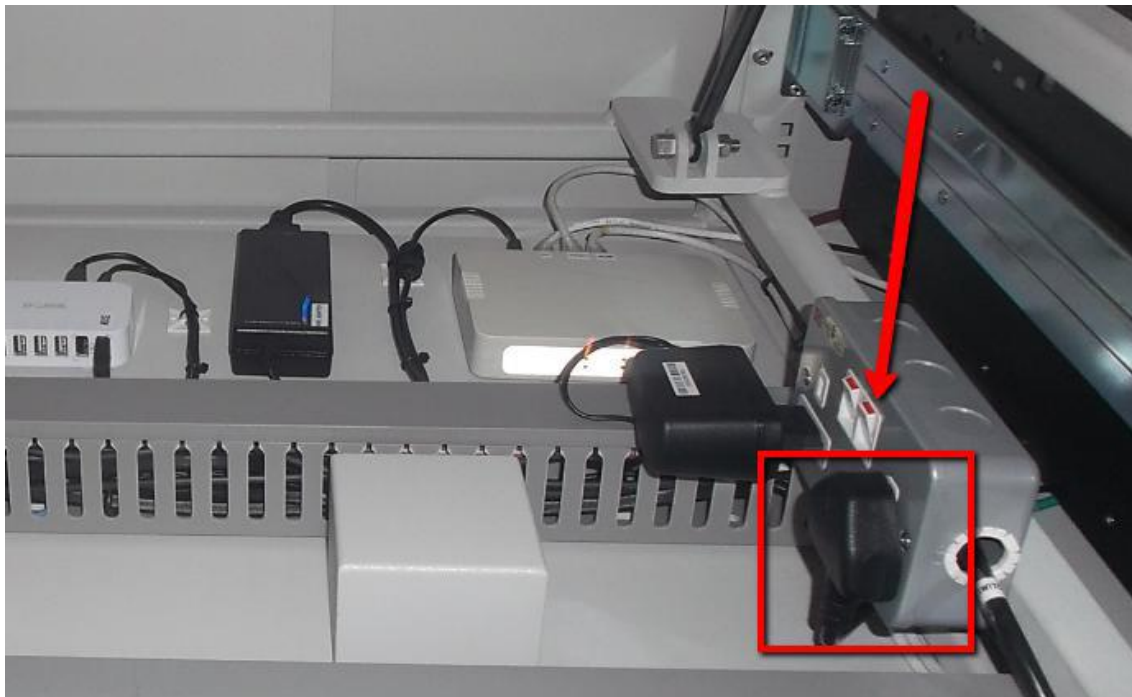

Figure 4 3 PIN PLUG POWER SWITCH
4. Turn Off 3 PIN PLUG Switch as below Figure 4. (Remarks : Power supply for POE Switch)